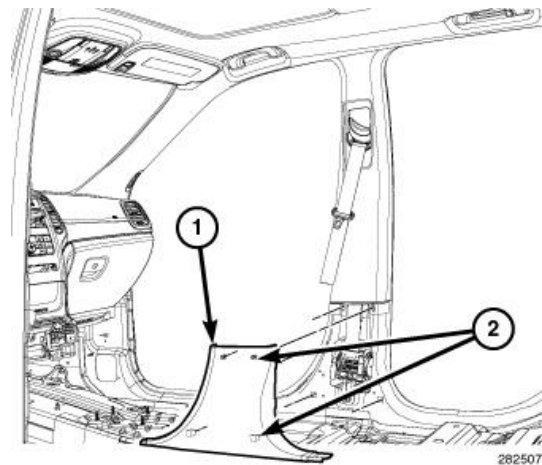

Figure 15 – Lower B-pillar Trim
25. Using a trim stick, disengage the retaining tabs (2) that secure the lower B-pillar trim panels (1) to the B-pillars (Figure 15).